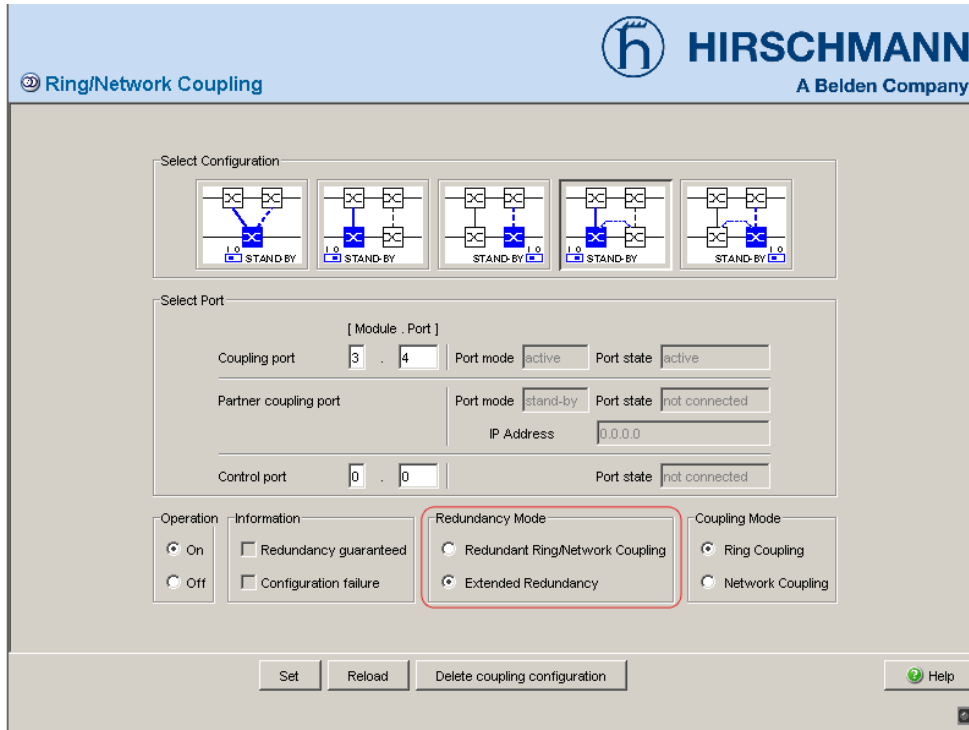

Figure 54: Selecting the redundancy mode
- In the “Redundancy Mode” frame, select (see fig. 54)